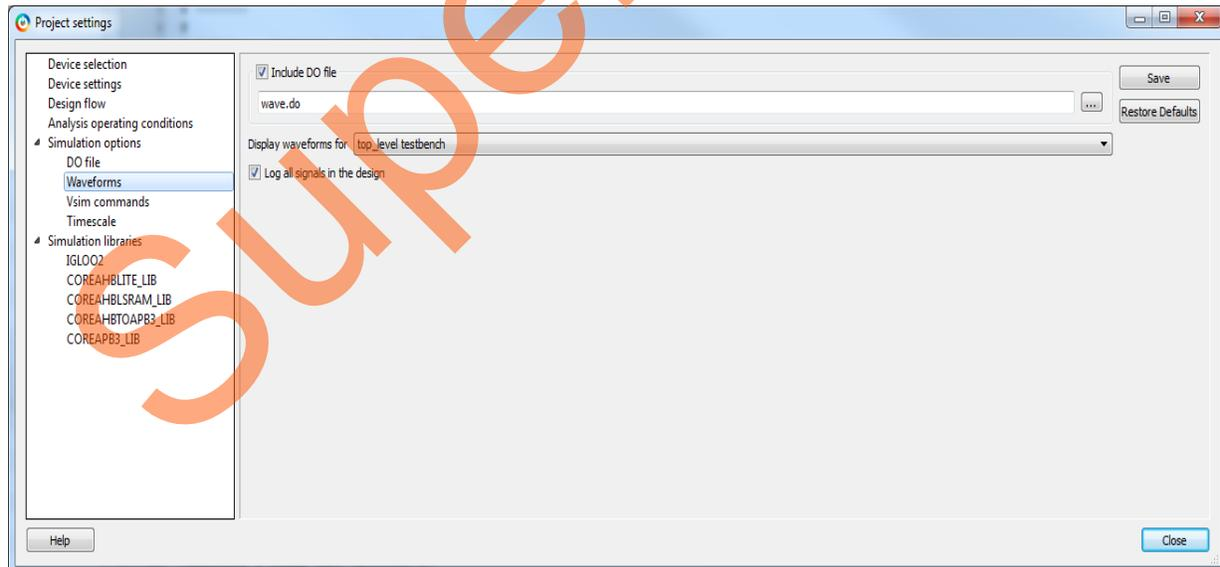

Figure 41 • Project Setting – Waveform
6. Select **Waveforms** under **Simulation Options** as shown in Figure 41.